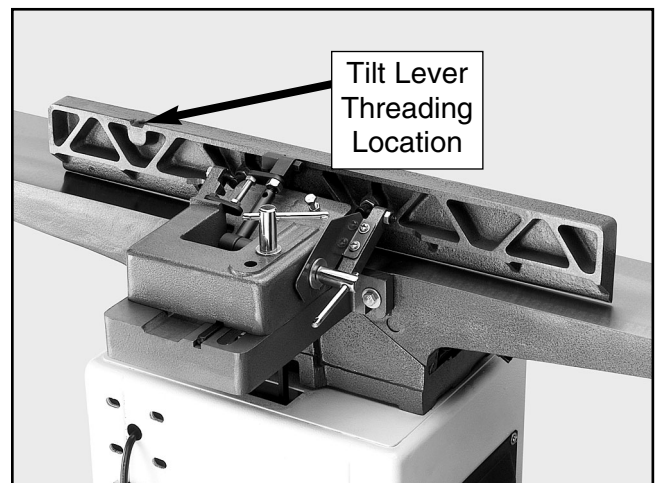

Figure 16. Correctly installed fence assembly.
2. Secure the fence assembly to the jointer with the lock handle, the flat washer, and the special nut (**Figure 16**). Note—*Make sure the flanges on the special nut protrude upward and into the slot on the underside of the fence support.*